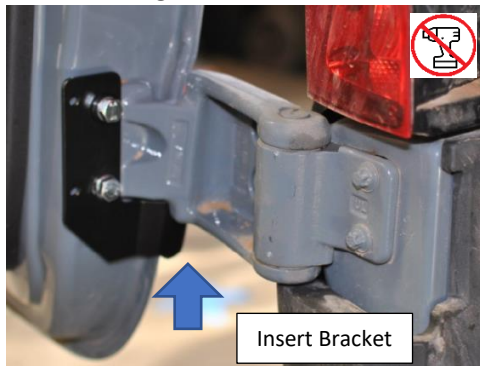

Figure 6: Lower Bracket Installed
- 19. Install the lower hinge bracket following the same procedure detailed in Step 18 and by installing over the hinge from the bottom up. Reference Figure 6.